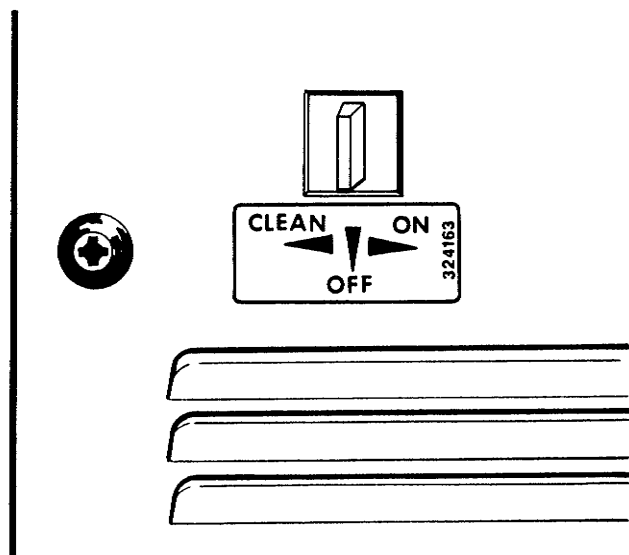

Figure 11. Clean-Off-On Switch
- C. Place the CLEAN-OFF-ON paddle switch in the CLEAN position. Check for leaks around the front door seal (Fig. 11).